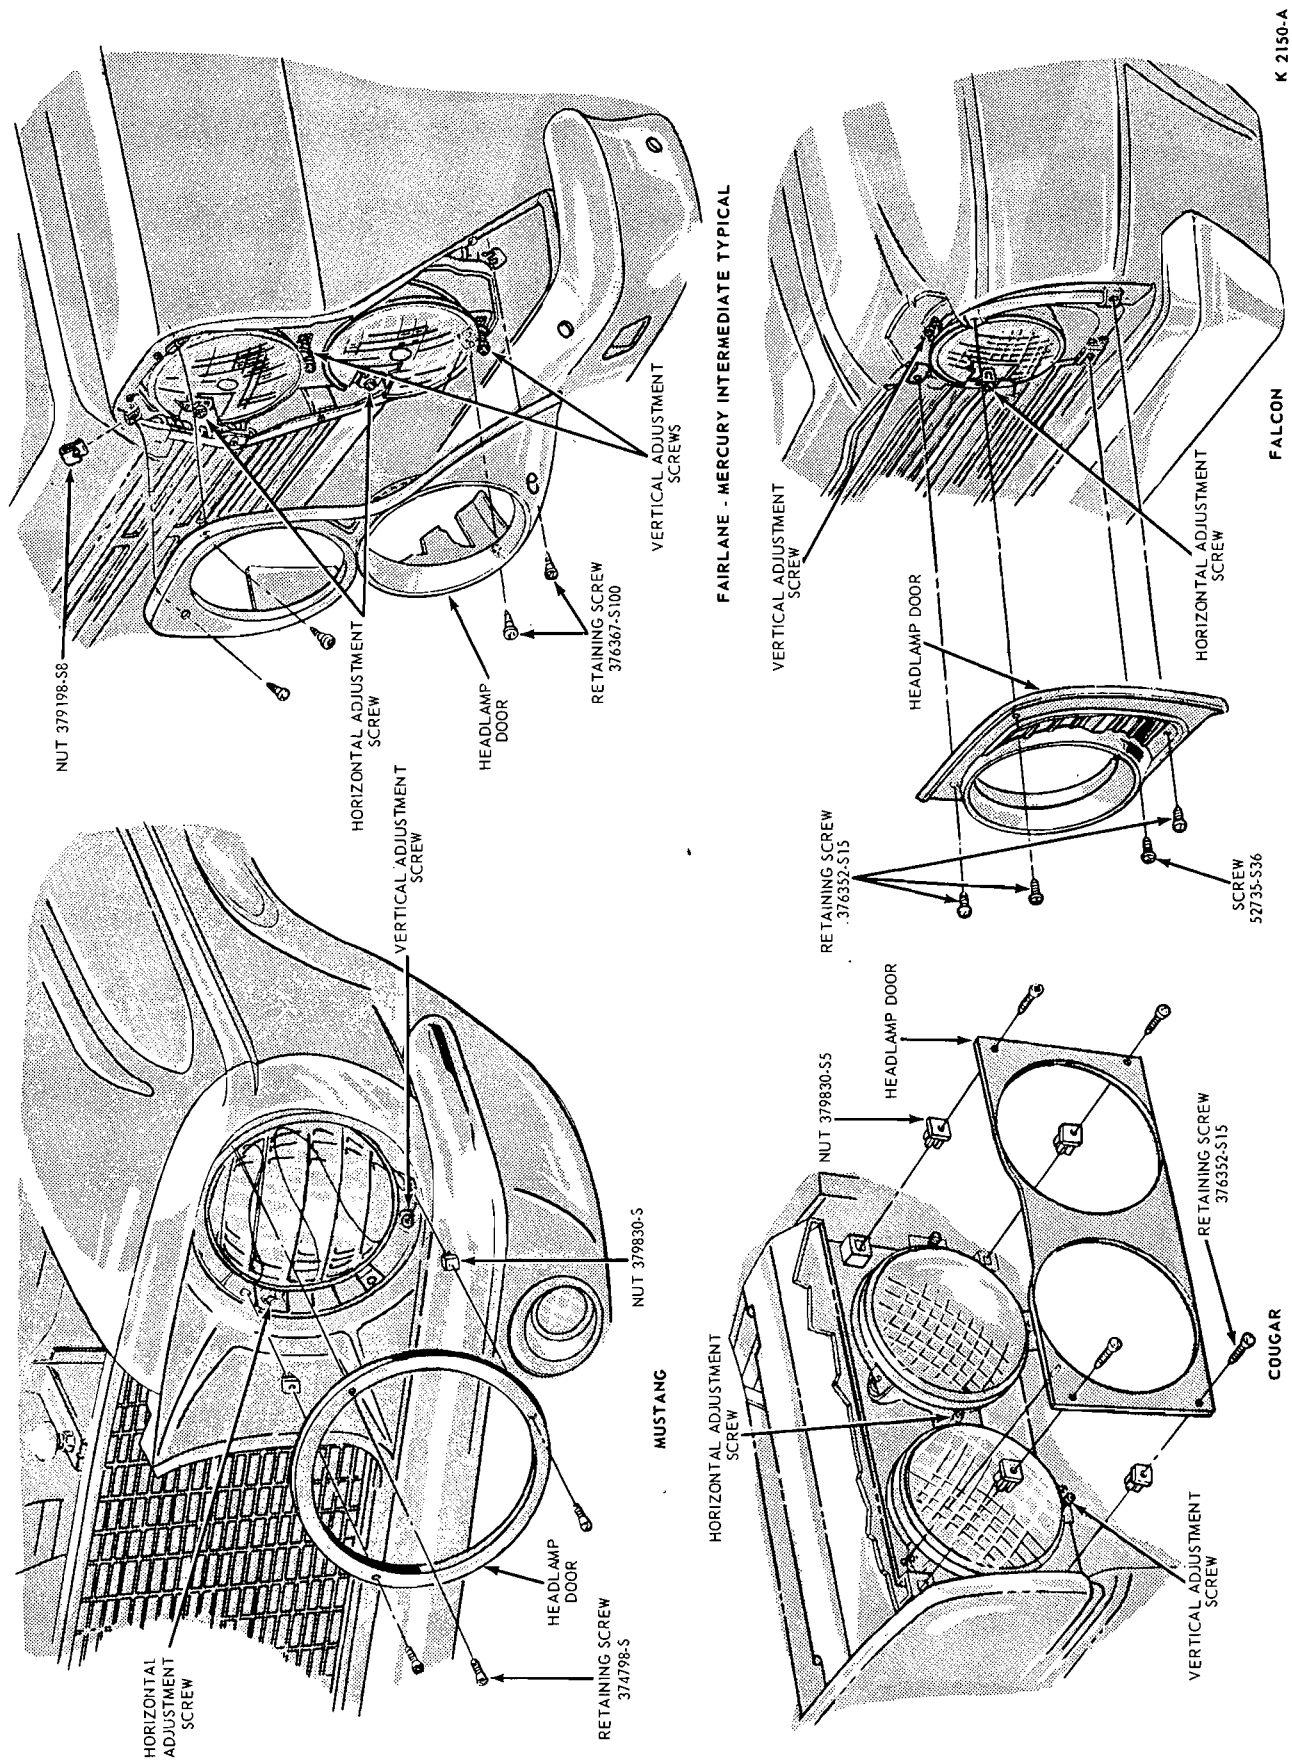

FIG. 4—Headlight Adjustment—All
Each headlight can be adjusted by means of two screws located under the headlight trim ring. Always bring each beam into final position by turning the adjusting screws clockwise so that the headlights will be held against the tension springs when the operation is completed (Fig. 4).
1. Remove the screws and remove the headlight trim ring (Fig. 4).